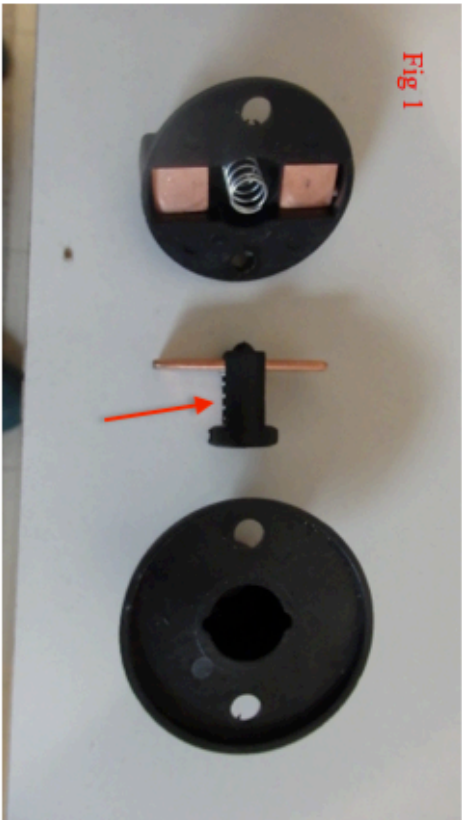

Fig 1
The rivets were drilled out and the picture shown in Figs 1 to 4 show the internal arrangement of the switch. The following points were found:-
- (2) There are two springs and the spring visible in Figs 1,2, and 4 is of lower strength than the spring partly hidden in Fig1, shown by the red arrow. The lower strength spring clearly helps the contacts to part when the switch is turned off and the partly hidden stronger spring in Fig 1 forces the contacts together when the switch is operated to close.